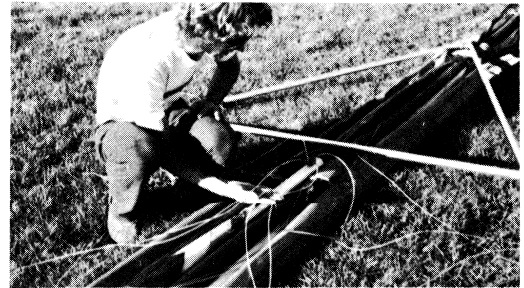

Fig. 18
(17) Grab both anti-sweep cables (running from the end of the keel to the wing bolt), pulling forward on them, and tuck them into the control bar mount box. Then put quick pin into mount box, trapping these anti-sweep cables inside the mount box (See Figs. 18 and 19).